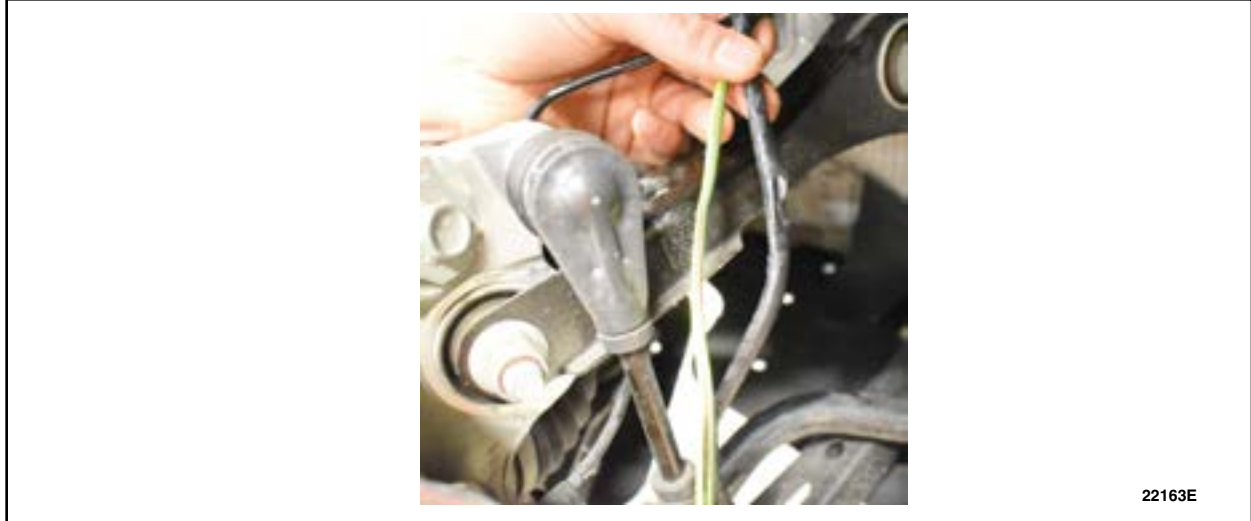

FIGURE 5
8. Starting near the connector, remove the wire from the conduit as far back as the tape has been removed. See Figure 5. Take care to not cut the conduit as it will be reused.